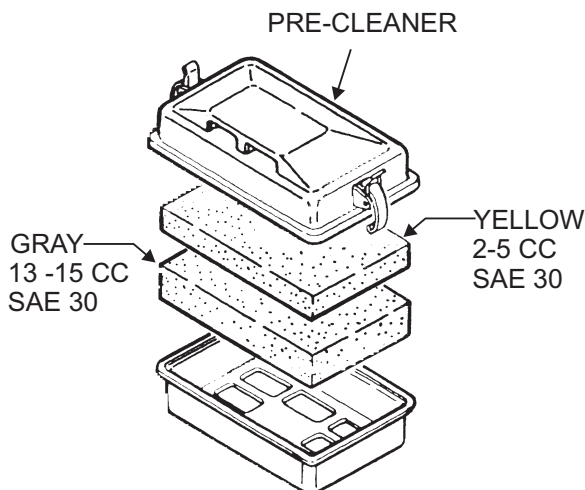

Figure 12. Pre-Cleaner
- Remove the element from the pre-cleaner (Figure 12) at the top of the crankcase (body side) and clean it with cleaning oil (kerosene).